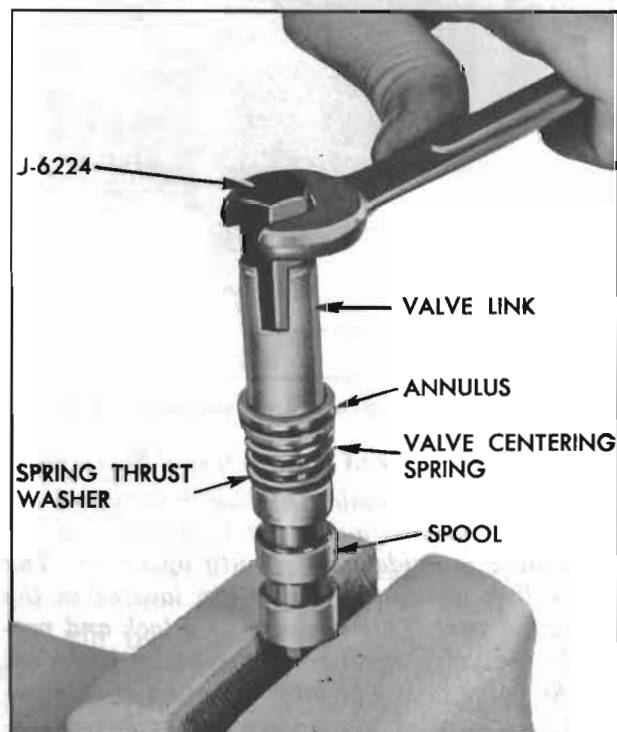

Figure 8-20—Removing Valve Link
2. Clamp the spool assembly in a vise on the small end. **DO NOT CLAMP THE SPOOL ON THE LARGE FINISHED DIAMETER.** Remove the valve link using Remover and Replacer J 6224, annulus, valve centering spring, and spring thrust washer. Then turn spool over to remove the reaction control spool and spring. See Figure 8-20.